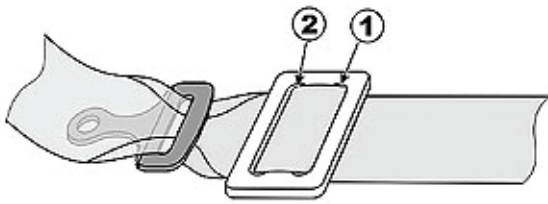

Figure 2
5. in case of the combination of a 50 mm bracket slot and 75 mm webbing, fold the webbing (Figure 2).